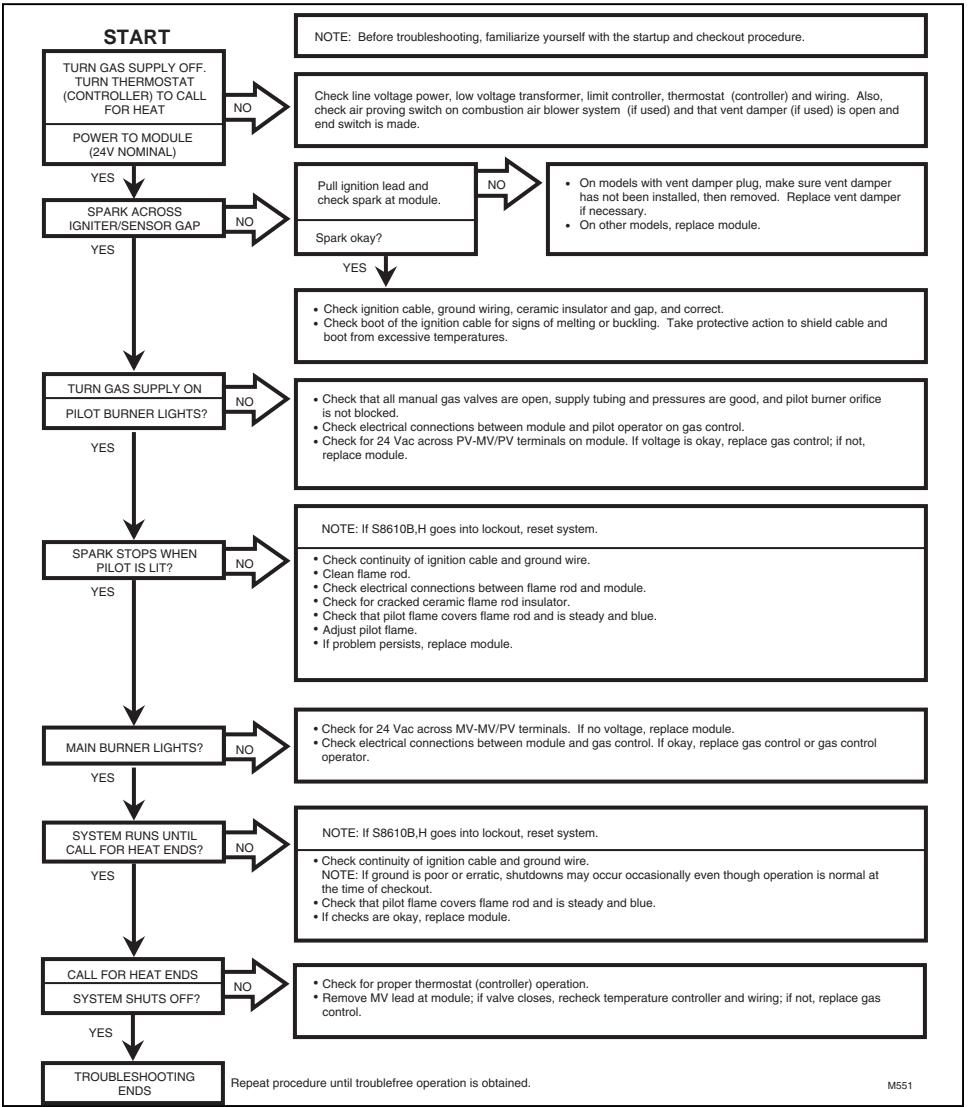

Fig. 15—S8610 troubleshooting guide.
Perform the checkout on page 12 as the first step in troubleshooting. Then check the appropriate troubleshooting guide (Fig. 15 or 16) and the schematic diagram (Fig. 17 or 18) to pinpoint the cause of the problem. If troubleshooting indicates an ignition problem, see Ignition System Checks below to isolate and correct the problem.
- If main burner doesn't light or if main burner lights but system locks out, check module, ground wire, and gas control as described in appropriate troubleshooting chart, Fig. 15 or 16.